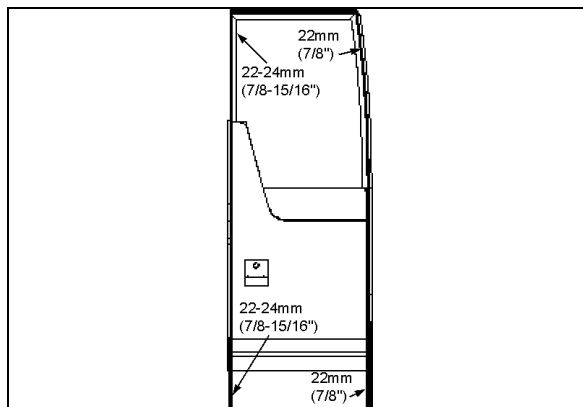

FIGURE 25: SEAL COMPRESSION ADJUSTMENT
2. From the outside of vehicle, insert a straight edge in the gap along the door outside perimeter. Measure the distance between the door frame and the door outside surface at the door four corners (refer to figure 25).